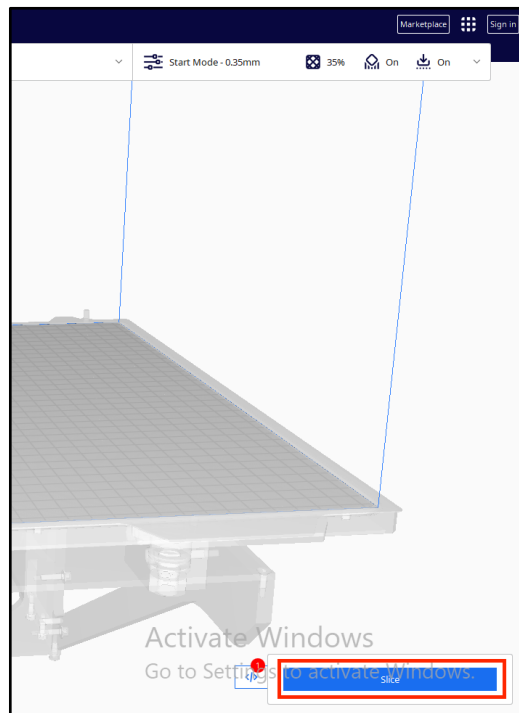

Figure 32: Slicing
23. Click on 'Slice' in lower-right hand corner of the page to begin slicing (See Figure 32).